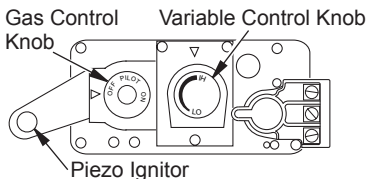

Figure 51 - Control Valve
5. Wait five (5) minutes to clear out any gas. Then smell for gas, including near the floor. If you smell gas, STOP! Follow "B" in the safety information on page 26, column 2. If you don't smell gas, go to the next step.
7. Turn gas control knob counterclockwise  to PILOT (see Figure 51).
8. Push in gas control knob all the way and hold. Immediately light the pilot by repeatedly depressing the piezo spark ignitor until a flame appears. Continue to hold for about one (1) minute after the pilot is lit. Release gas control knob and it will pop back. Pilot should remain lit. If it goes out, repeat steps 4 through 8.